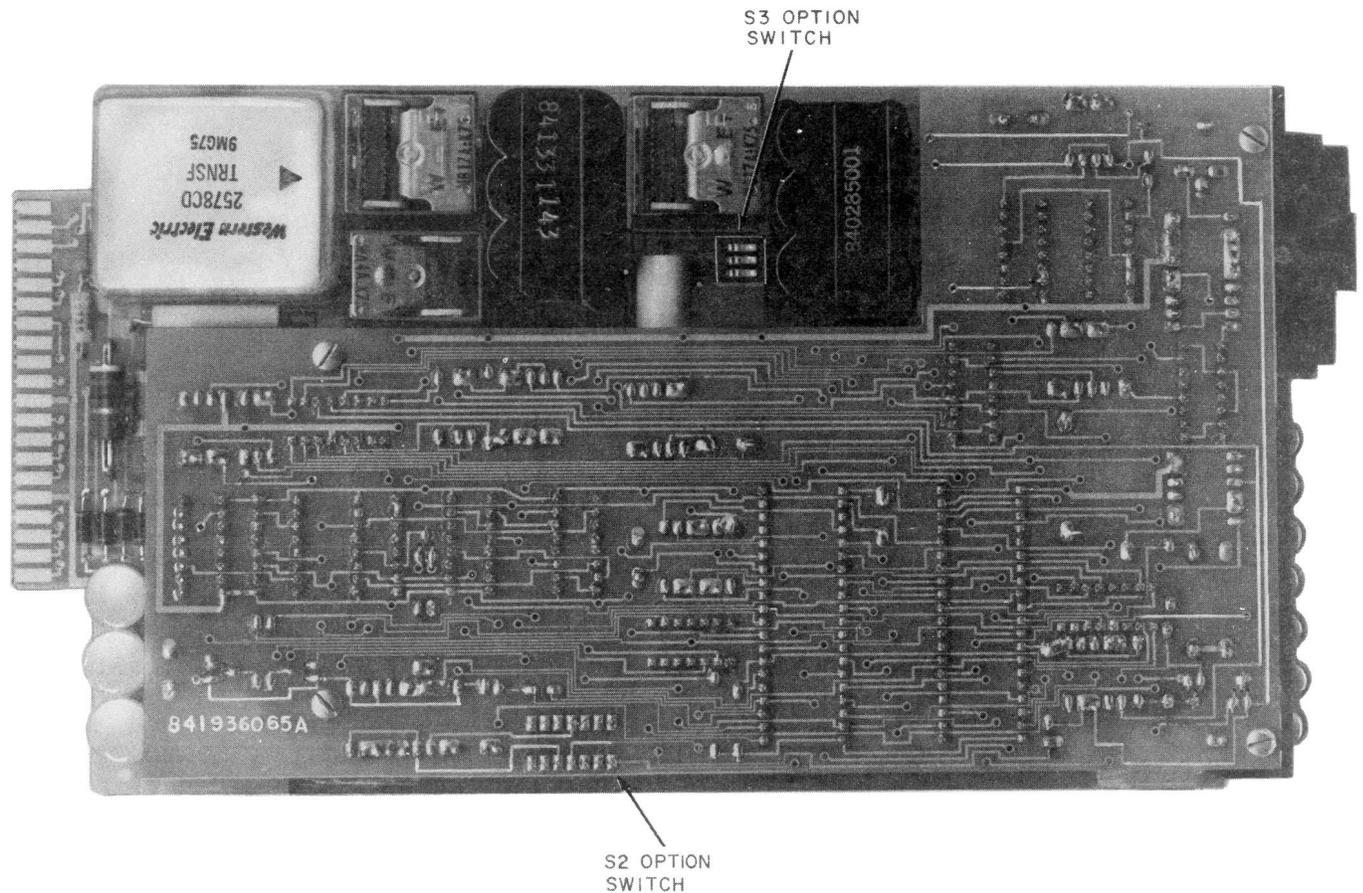

Fig. 1—DS 103JR-L1
**2.01** DS 103JR-L1 must be removed from the mounting to be accessible (Fig. 1).